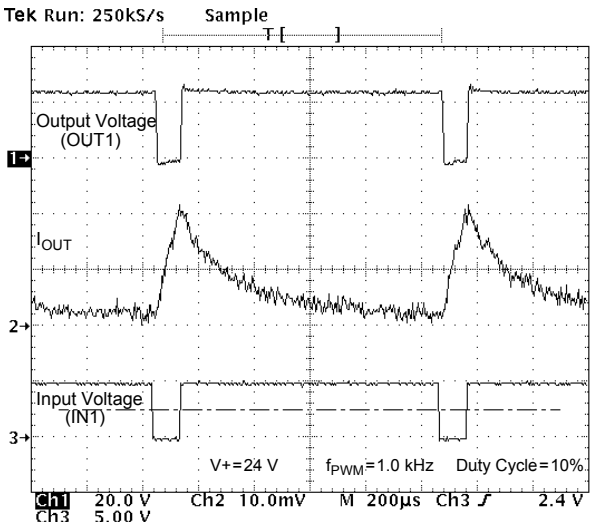

Figure 10. Output Voltage and Current vs. Input Voltage at  $V+ = 24 \text{ V}$ , PMW Frequency of 1.0 kHz, and Duty Cycle of 10%
20. The outputs can be PWM controlled from an external source. This is typically done by holding one input high while applying a PWM pulse train to the other input. The maximum PWM frequency obtainable is a compromise between switching losses and switching frequency. Refer to Typical Switching Waveforms, Figures 10 through 17, pp. 11–12.